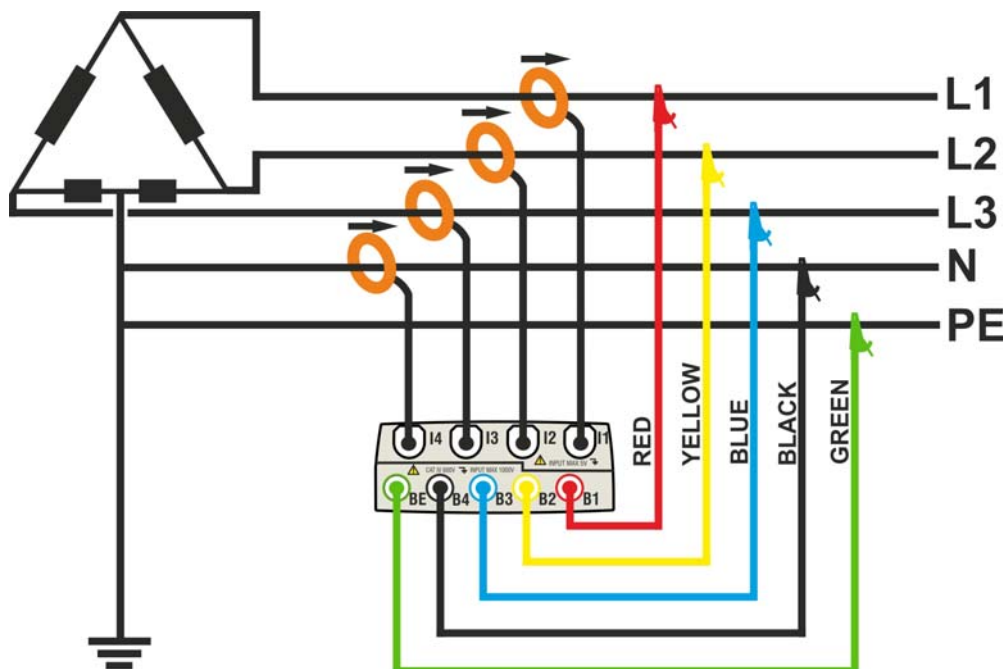

Fig. 123: Meter connection in a three phase 4-wire 3P HL system – ENG\_UK type
2. Connect voltage test leads on Phases L1, L2, L3, N and PE cables considering the colours as shown in Fig. 123. **Verify the result “123” at display relative to a correct phase sequence indication** (see § 5.2.1) and perform the corrections if necessary.
3. Connect the transducer current clamps on Phase L1, L2, L3 and N cables as shown in Fig. 123 respecting the clamp's arrow direction indicating the current standard sequence from generator to load. **On Real Time Values' section screens (selecting a 3 wire system preliminarily) always verify the positive value of Active Power and the power factor relative to load which should be normally inductive** before starting a recording. Reverse the clamp by 180 degrees on cables in case of negative readings.